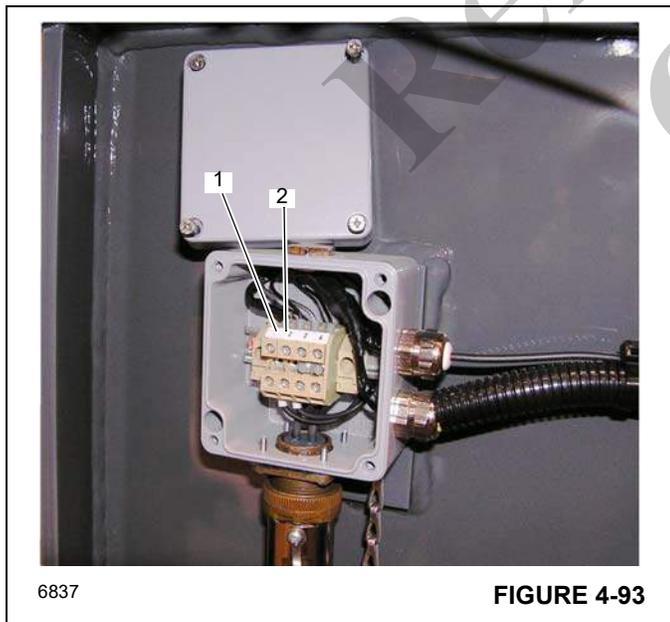

FIGURE 4-93
- b. Connect the "SHD" wire (1), (Figure 4-93) to Terminal 1 and the "CORE" wire (2), (Figure 4-93) to Terminal 2.